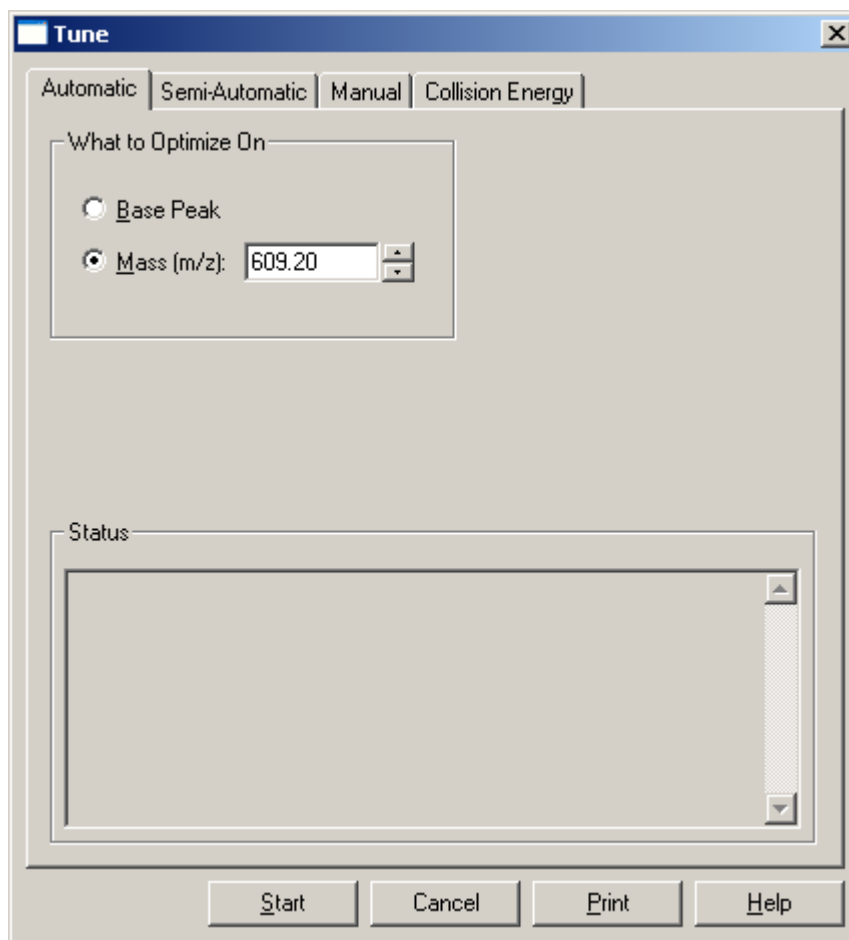

Figure 7-5. Tune dialog box, showing the Automatic tuning page
1. On the Control/Scan Mode toolbar, click on the Tune button to display the Automatic tuning page. See Figure 7-5.